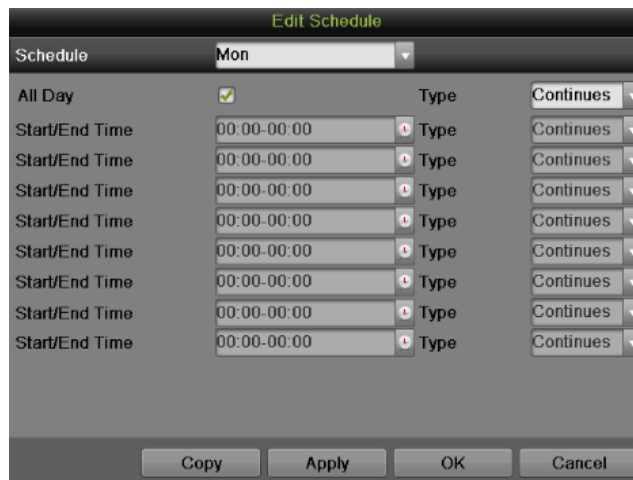

Figure 50 Edit Schedule Menu
- 1) Click the Edit button on the bottom right to pop-up the Edit Schedule menu, as shown in Figure 50.